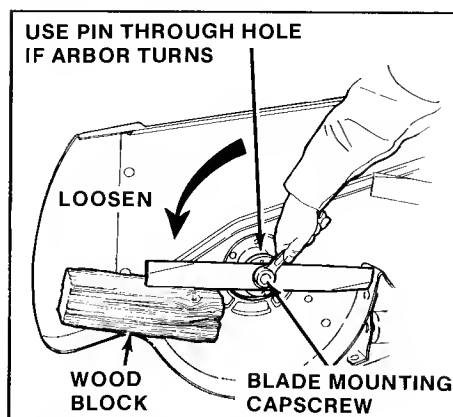

Figure 17. Removing Blade
2. Position the mower as in figure 17. Secure the mower so it will not fall or slide.
4. To remove the blade for sharpening use a wooden block to hold blade while removing the capscrew (figure 17).